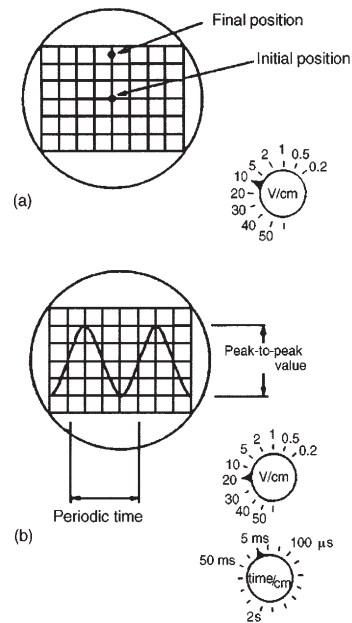

Figure 10.15
- (i) With **direct voltage measurements**, only the Y amplifier 'volts/cm' switch on the oscilloscope is used. With no voltage applied to the Y plates the position of the spot trace on the screen is noted. When a direct voltage is applied to the Y plates the new position of the spot trace is an indication of the magnitude of the voltage. For example, in Fig. 10.15(a), with no voltage applied to the Y plates, the spot trace is in the centre of the screen (initial position) and then the spot trace moves 2.5 cm to the final position shown, on application of a d.c. voltage. With the 'volts/cm' switch on
- (ii) With **alternating voltage measurements**, let a sinusoidal waveform be displayed on an oscilloscope screen as shown in Fig. 10.15(b). If the time/cm switch is on, say, 5 ms/cm then the